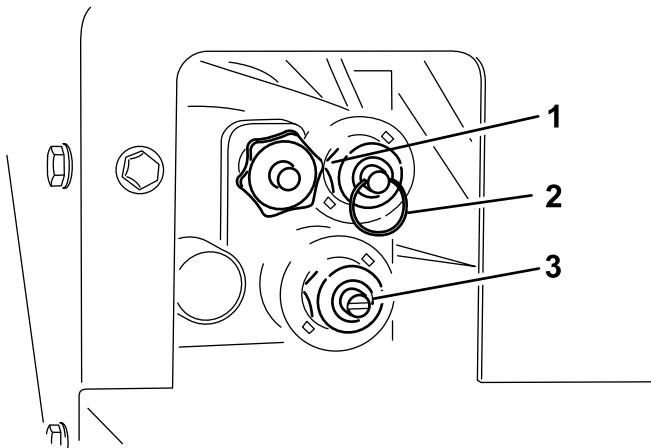

Figure 25
The override access is on the driver side of the hydraulic system (Figure 25).
- To lower the hopper (Figure 25), pull out on the ring on the valve stem.
- To adjust the spinner speed (Figure 25), use a flat-head screwdriver to increase by turning clockwise or decrease by turning counter clockwise.
- To adjust the floor speed (Figure 25), turn the knob clockwise. Maximum floor speed is used in the Color-Coded Operating System so this adjustment can be made while no hydraulic flow is present. This is most relevant when you have a hopper full of sand.
- To raise the hopper (Figure 25), push in on the ring on the valve stem.